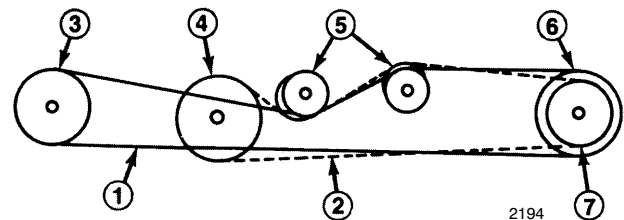

Figure 26
To replace traction or jackshaft belt, use the following procedures and belt routing diagram (Fig. 26).
5. Install belts, route traction belt over transmission as shown (Fig. 26).